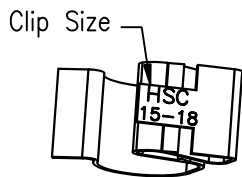
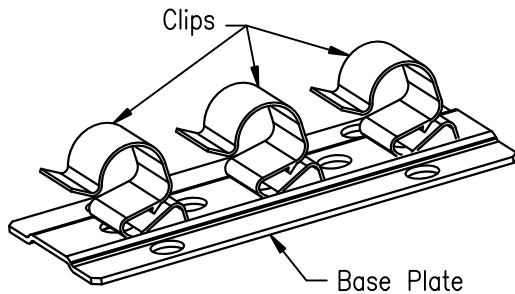

Figure 1
Figure 2
2. Assemble clip(s) to the base plate according to the size and number of cables that need to be secured. Figure 1 shows the location of the clip part number. Table 1 shows clip sizes, corresponding cable diameters, and maximum number of clips per plate for a given size. Figure 2 shows a sample assembly.